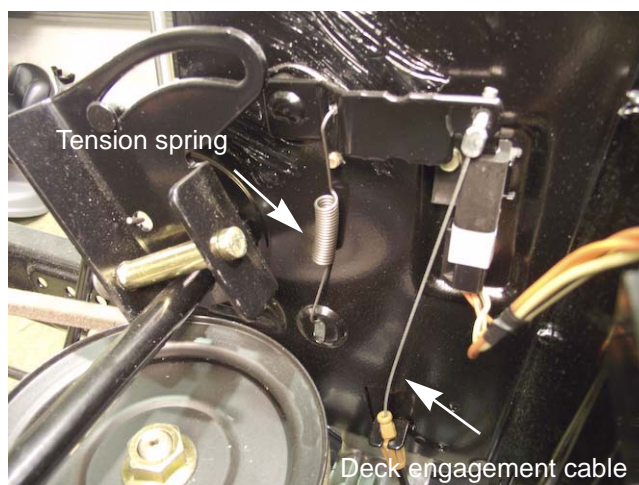

Figure 8.42
3. Remove the tension spring from the handle bracket. See Figure 8.42.